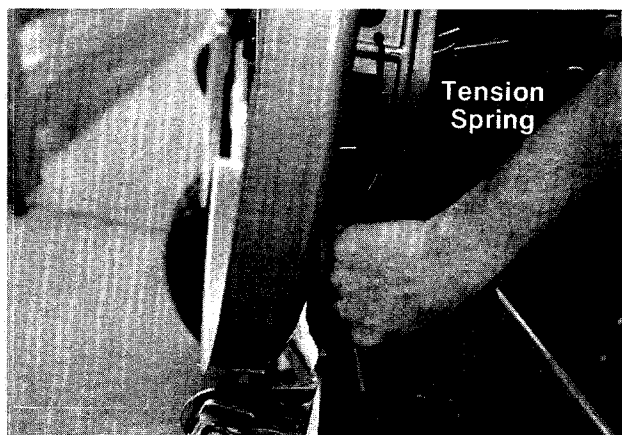

FIGURE 35.
5. Unhook the tension springs on both sides of the deck. See figure 35.